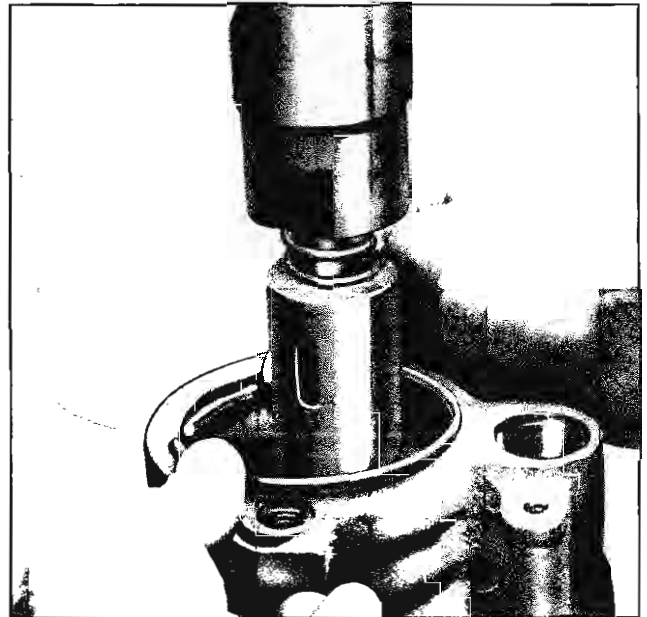

Fig. 9A-22 Installing End Plate
9. Install pressure plate spring in center groove of pressure plate (Fig. 9A-21).